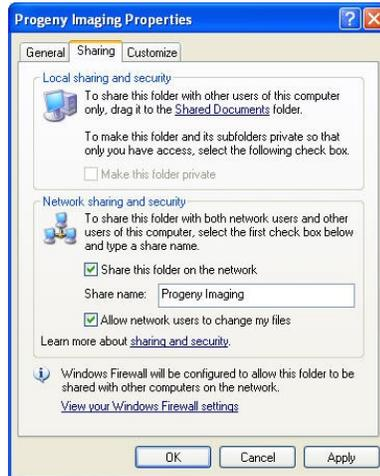

Figure 76
- The Sharing tab now shows that Progeny Imaging is shared. Select Allow network users to change my files and click OK (see Figure 76 on page 48).